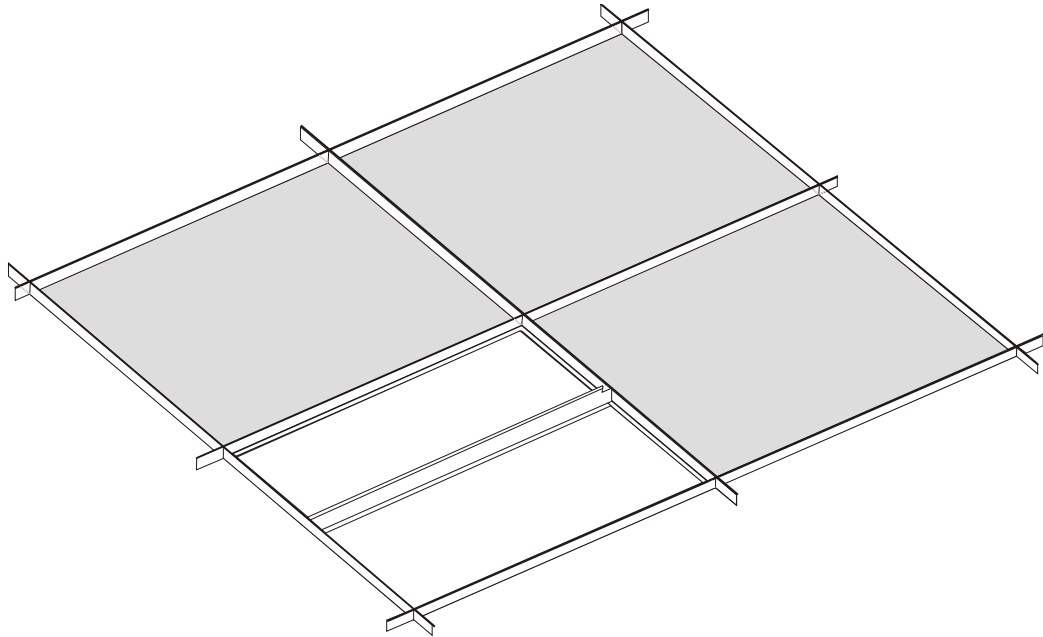

Figure 9: Placing the Ceiling Mounting Bracket
3. Place the ceiling mounting bracket (supplied with the half-tile unit only) between the ceiling rails, as illustrated in Figure 9.